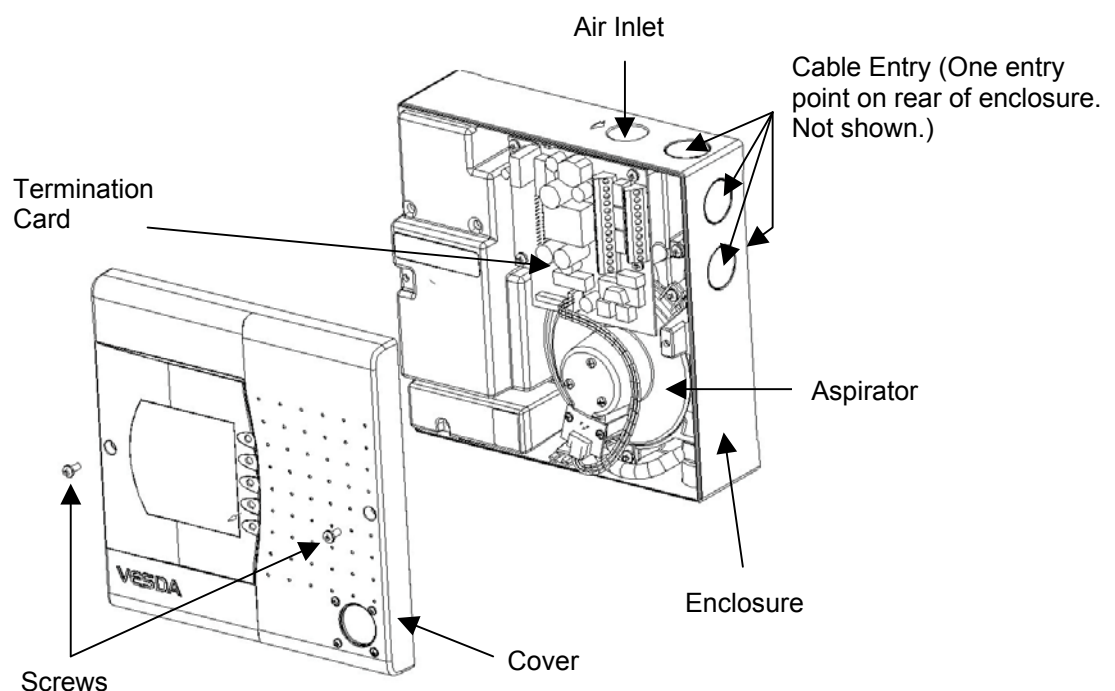

Figure 4 LaserCOMPACT with Front Cover removed. (Normal Orientation).
- (a) Determine the cable entry holes to be used. Refer to Figure 4.